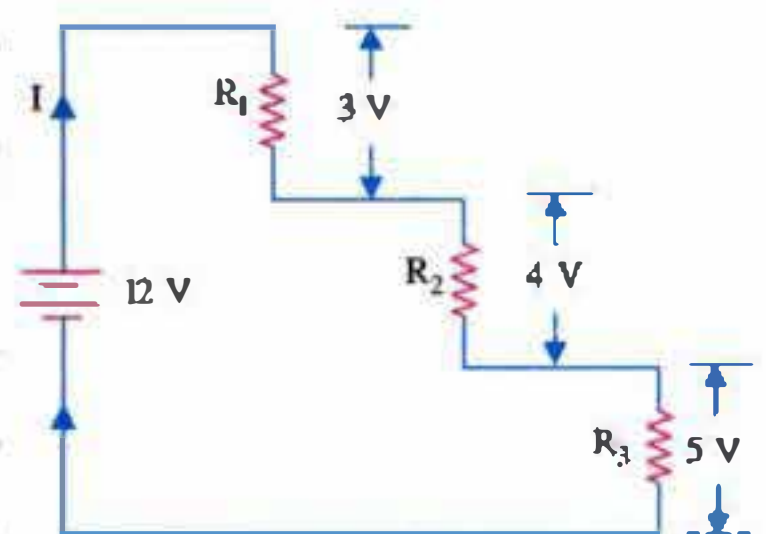

Fig. 2.4
4. There is a stepped fall in voltage as we go from one end the battery to the other as shown in Fig. 2.4.